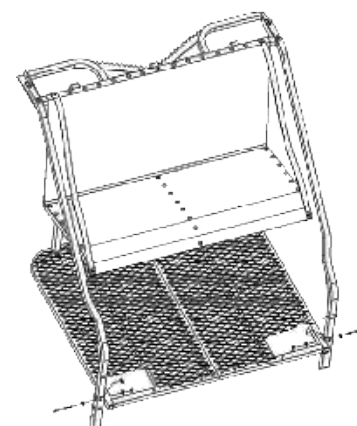

Figure 21
STEP 6: Attach the platform to the uprights using two (2) 3" bolts, six (6) washers, and two (2) locknuts as shown in Figure 21. Make certain to install a washer under the bolt head, the nut, and between the platform and the uprights as shown in Figure 21.